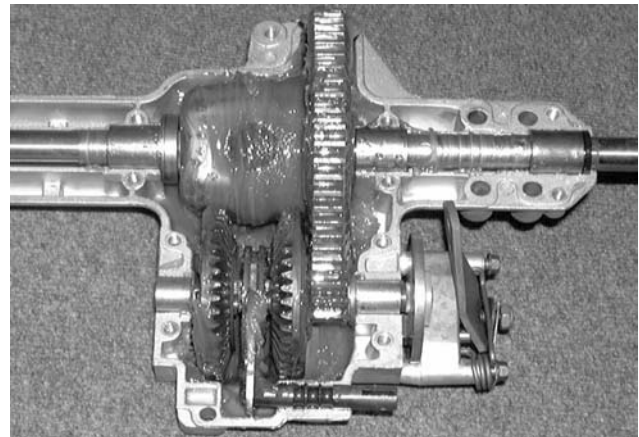

Figure 8-69.
26. Fully grease the transmission. See Figure 8-69.